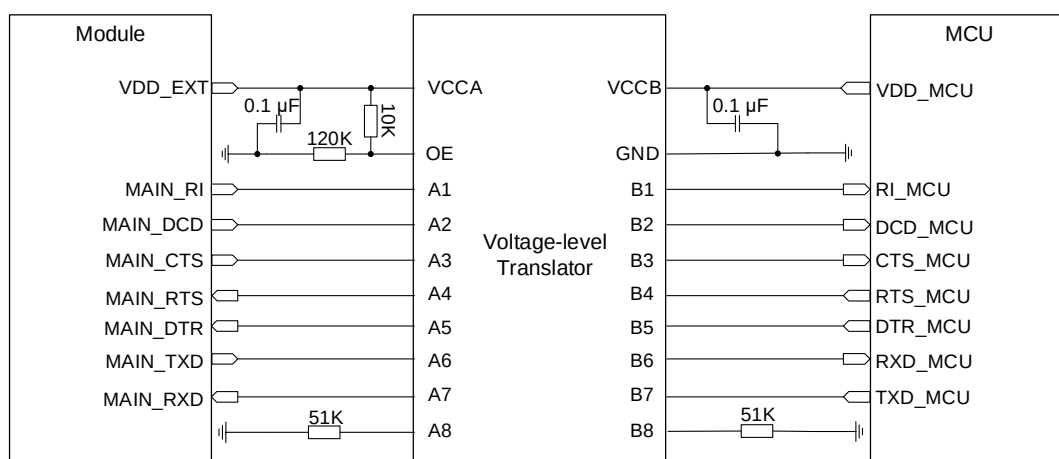
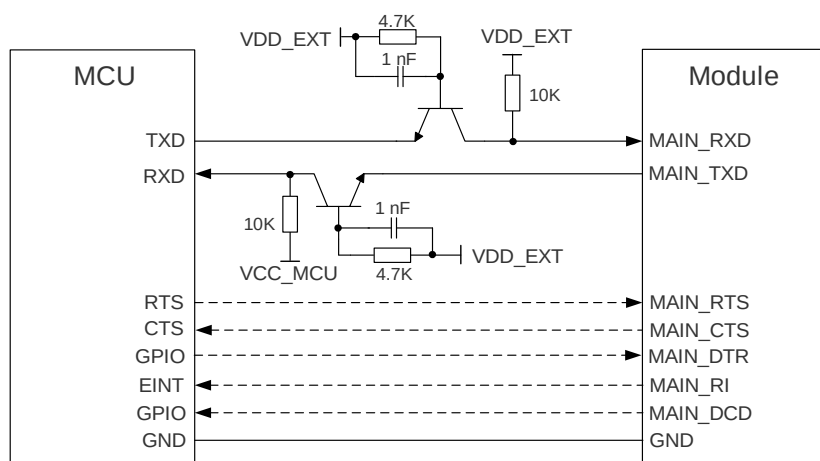

Figure 17: Main UART Interface Reference Design (IC Solution)
Figure 18: Main UART Interface Reference Design (Transistor Solution)
3. The level-shifting circuits (Figure 17 and Figure 18) take the main UART as an example. The circuits of the debug UART and the GNSS UART are connected in the same way as the main UART.